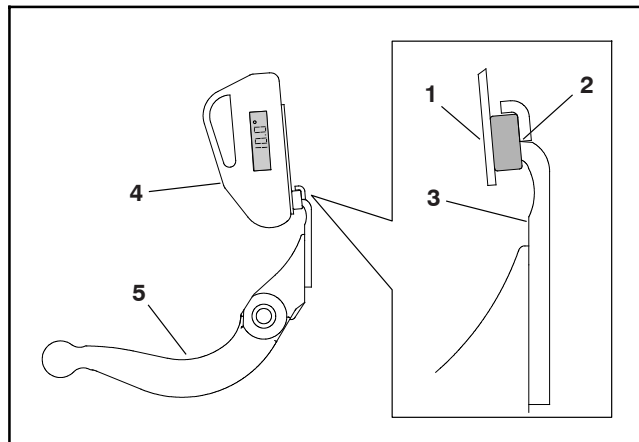

Figure 20
3. Remove the angle indicator and place the angle-indicator mount on the edge of the bedknife so the face of the magnet is flat against the top of the bedknife (Fig. 20).
4. Place the angle indicator on the mount with the digital display facing you as shown (Fig. 20). The angle displayed on the indicator is the current bedknife top angle. The angle measured should be between 8° and 12°.